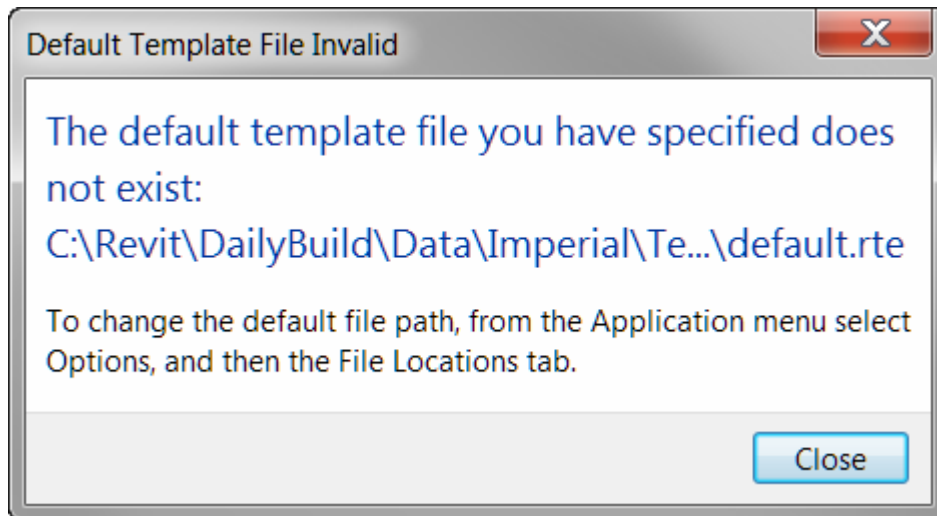

Figure 226 - A task dialog that uses both main instructions and main content
The text should be written as a statement in sentence format, but with no final punctuation. See Figure 226 for an example of a Task Dialog with footer text.
- See Figure 226 for an example of a Cancel button with command links